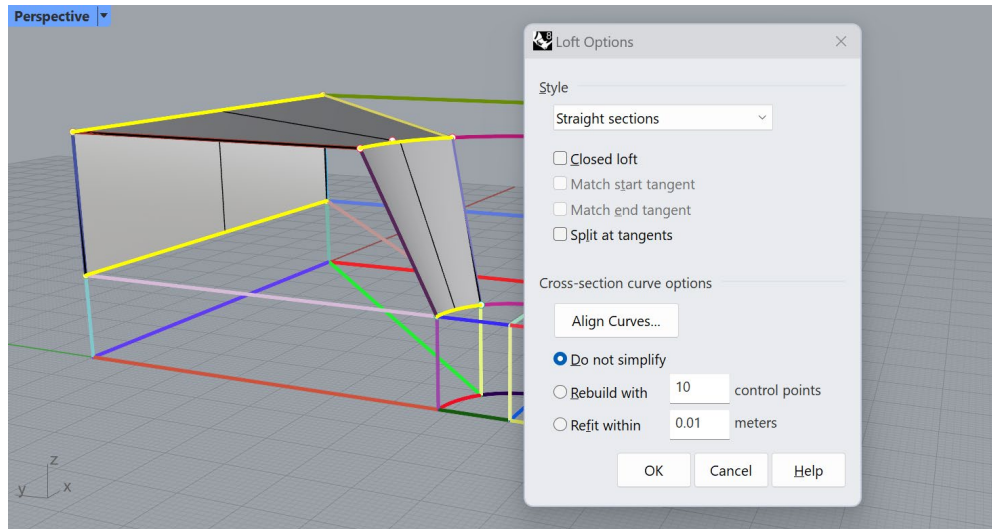

Figure 42: Building the surfaces for the first solid. Note that the grid has been hidden on this image.
14. Start creating a block at the top-left side of the model. Select the two arcs and two lines as shown in Figure 42 (selected lines are in yellow), type the **_Loft** command and use the settings shown in the right side of Figure 42. Click **OK** to build a lofted polysurface between the several curves. Alternatively, a single surface can be built between each pair of curves/lines.